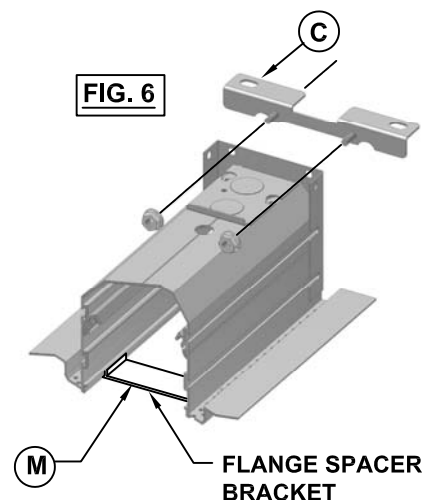

FIG. 6
SECURE SUPPORT BRACKET (C) ONTO EACH END OF FIXTURE WITH 10-24 NUTS PROVIDED (REF. FIG. 6)
REMOVE LENS (A) AT THIS TIME AND ROTATE FLANGE SPACER BRACKET (M) INTO POSITION AND SECURE TO PERFORATED FLANGE WITH SCREWS PROVIDED. (FIG. 6)